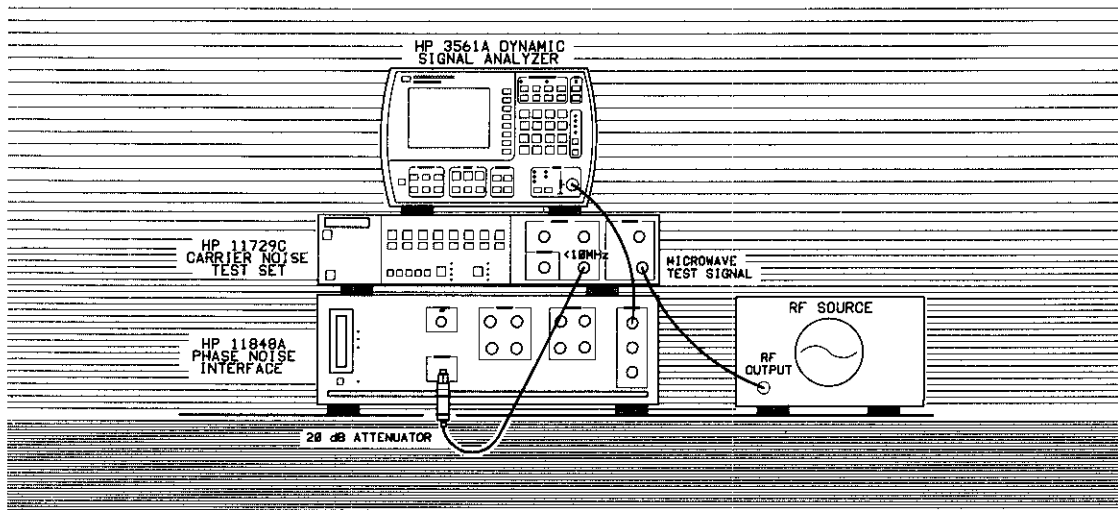

Figure 3-28. Setup diagram for AM Noise Measurement Example.
2. When the Connect Diagram appears, connect the signal paths as shown in Figure 3-28.